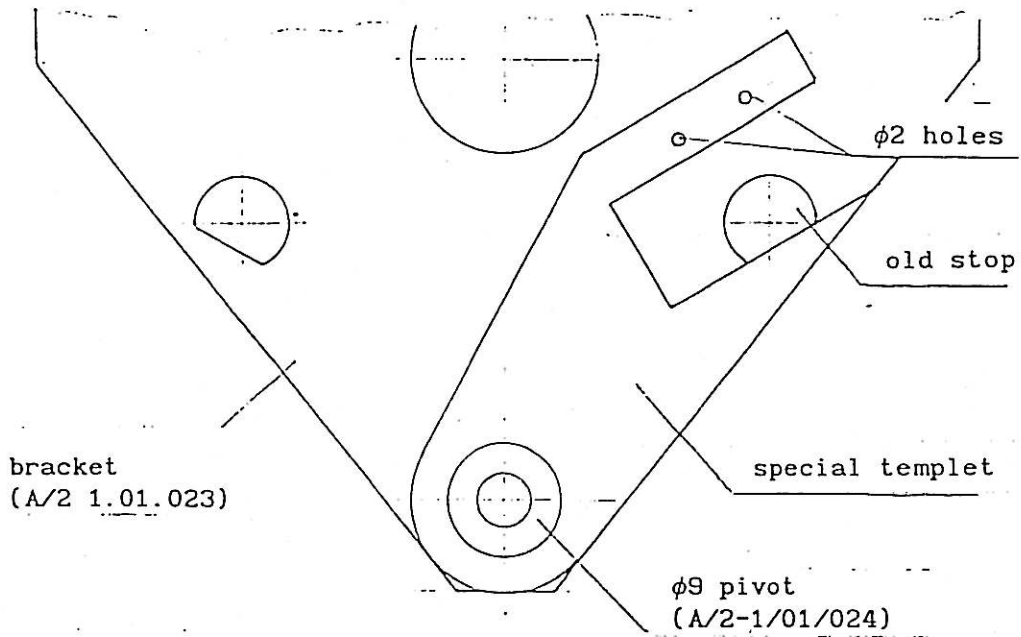

Fig.1. Way of marking the wholes for the new stops
- 1) Onto the flange  $\phi 18$  of  $\phi 9$  pivot (Fig. A/2-1.01.01.024 in techn. documentation) fitted in the bracket 1 of rudder (Fig. A/2-1.01.023 in technical documentation) put the opening of special templet and touch the inner face of slot to rudder stop as shown on Fig. 1.